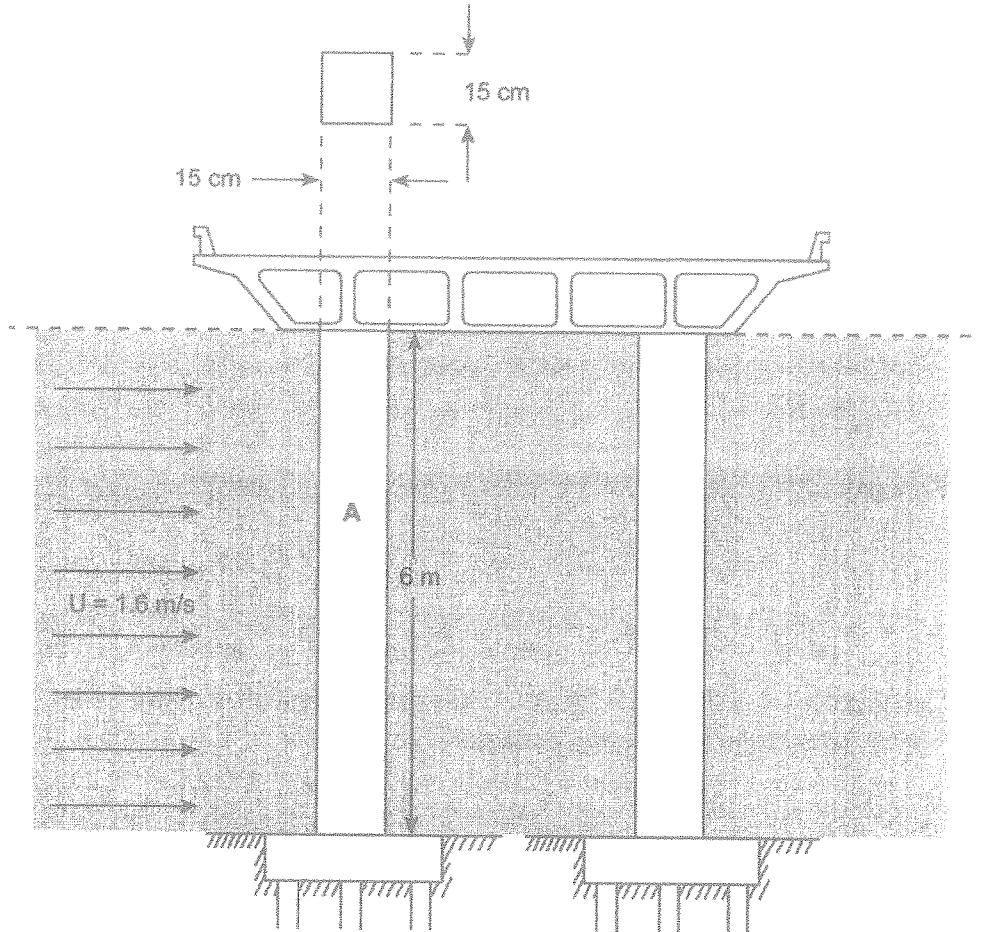

Figure Q2(b)
b) Figure Q2(b) shows a cross-section of bridge, which is constructed over a river on reinforced concrete columns. Height of each column is 6 m and the cross-section is a square of 15 cm sides. On a rainy day, columns are completely covered by a uniform flow of water, flowing at a velocity of 1.6 m/s. Estimate the maximum bending moment exerted by the flow at bottom of the column A.